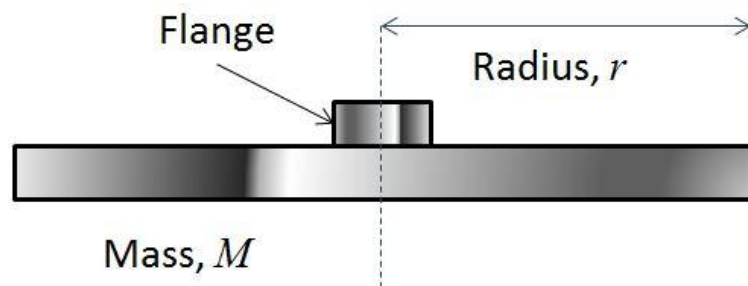

Figure 5 A solid disc flywheel
- A solid disk flywheel (*Figure 5*):